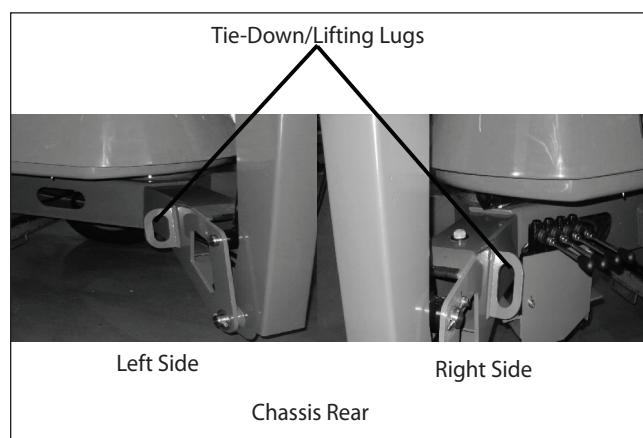

Figure 10.2 – Tie Down Lug Locations
6. Use chains or straps to securely fasten the aerial platform to the transport vehicle using the rear tie-down lugs (refer to Figure 10.2) as attachment points. Proper tie-down and hauling is the responsibility of the carrier.